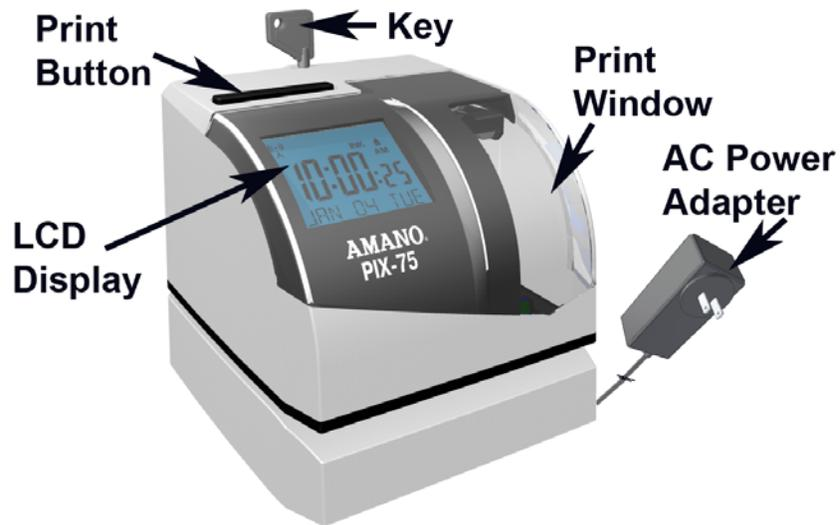
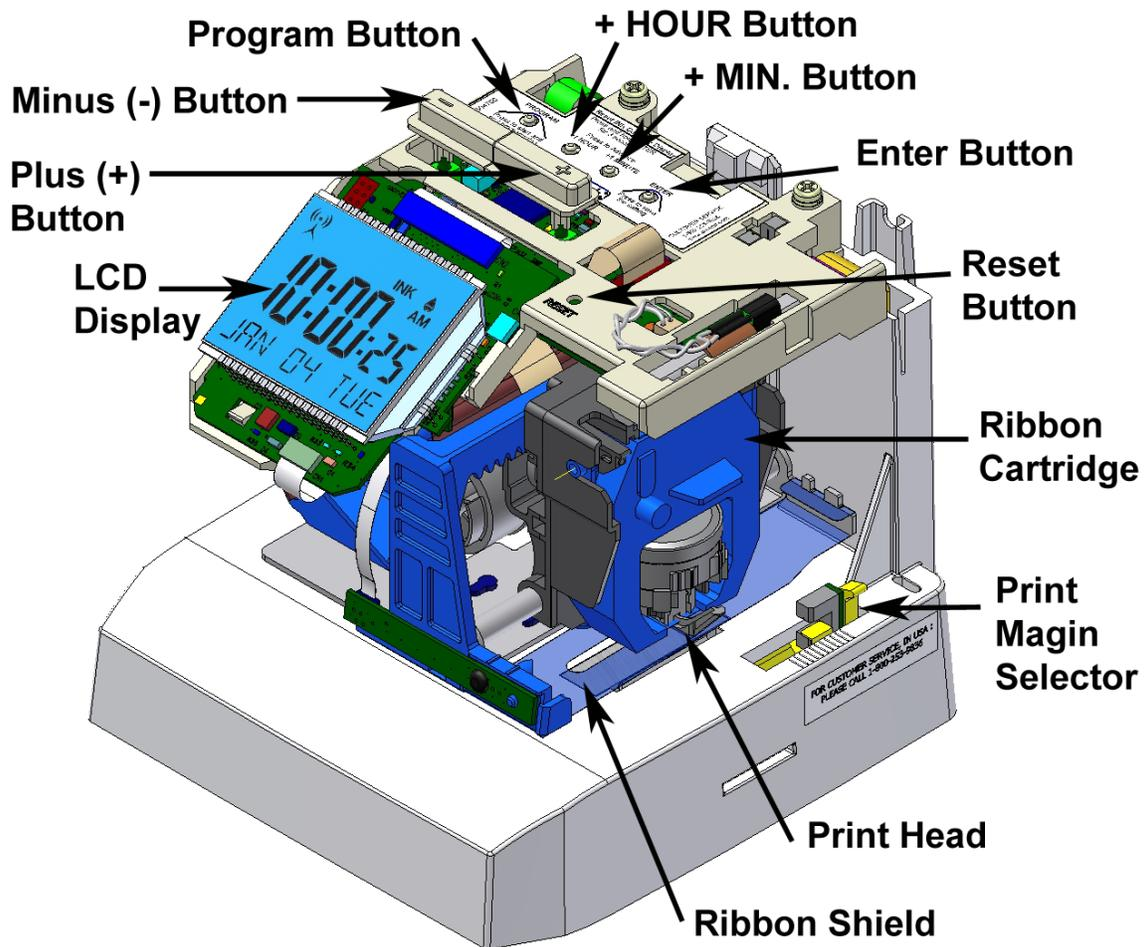

Figure 3: External View.
Figure 4: Internal View.
- If the “print method” is set to “**Manual**”, the clock will print line 1 when user presses the top left button [labeled minus], and print the line 2 when user presses the top right button [labeled plus] (see Figure 3 & Figure 4 on page 2-1) without using the paper sensor.